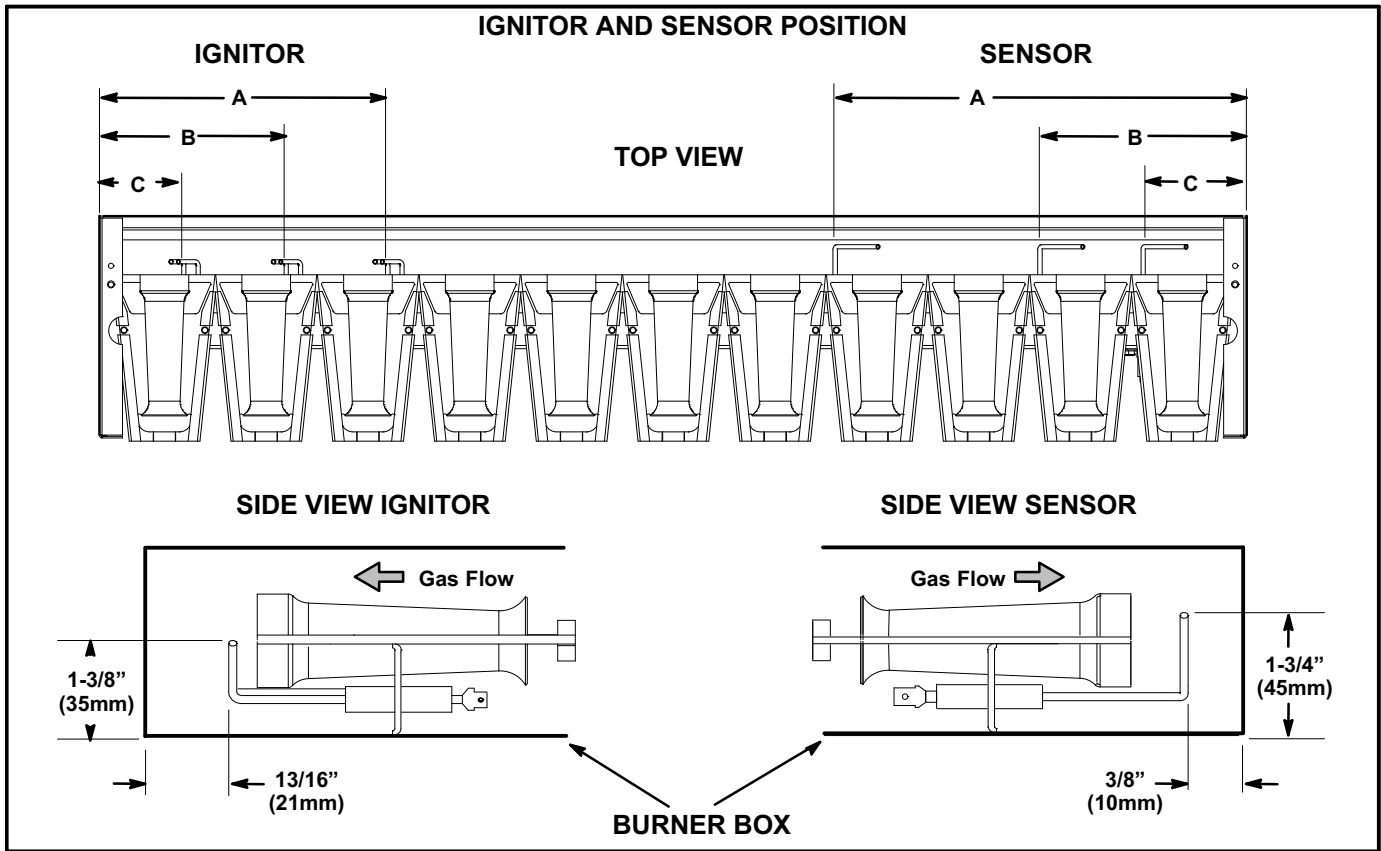

FIGURE 22
- 5- Check the alignment of the ignitor and the sensor as shown in figure 22 and table 11.